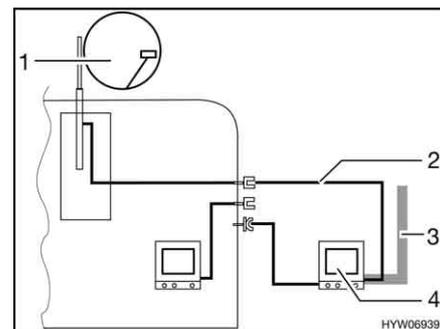

Fig. 119 TV in the awning
- TV inside the awning (Fig. 119,4): Connection to roof antenna (Fig. 119,1) with connection cable (Fig. 119,2)
- TV inside the awning (Fig. 119,4): Connection to external antenna (Fig. 119,3)